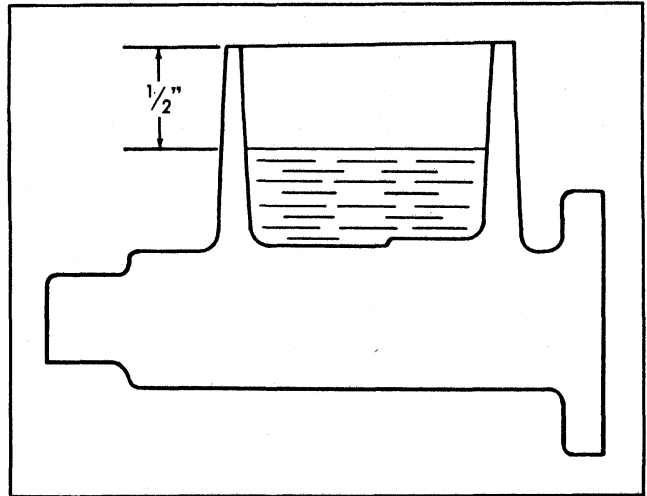

Fig. 5-10 Correct Fluid Level in Master Cylinder
6. Check level after working pedal several times. Fill master cylinder with recommended fluid to within 1/2" of top of cylinder and replace filler cap (Fig. 5-10).